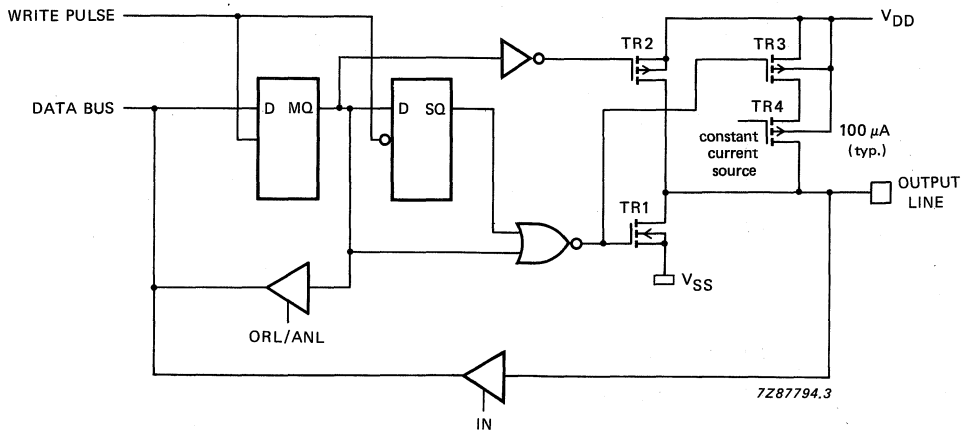

Fig. 12 Push-pull output.
- Option 3 – PUSH-PULL OUTPUT; drive capability of the output is 1,6 mA (min.) at VDD = 5 V in both polarities. To avoid a large current flowing through the output transistors during the input mode, these push-pull pins must only be used as outputs (Fig. 12).